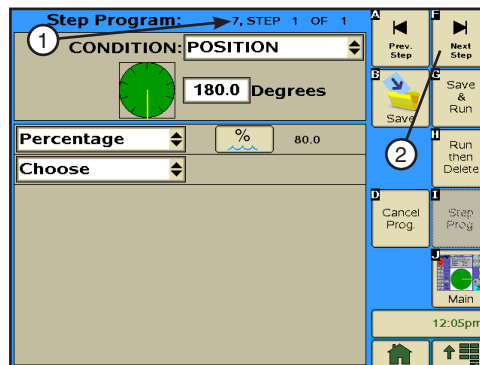

Figure 140-1 1. Step Program Identifier
5. Program the position condition for this step. Refer to Figure 140-1.